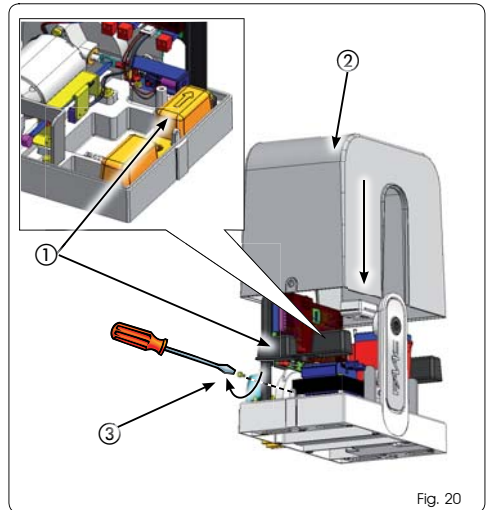

Fig. 20
Once the operator has been installed, carry out a thorough operational check of all accessories and connected safety devices. Press-fit the plastic covers of the operator fastening bolts, ensuring that the arrow is facing the gate (Fig. 20 re. ①), insert the cover casing (Fig. 20 re. ②) and fasten it by the two suitable side bolts (Fig. 20 re. ③).